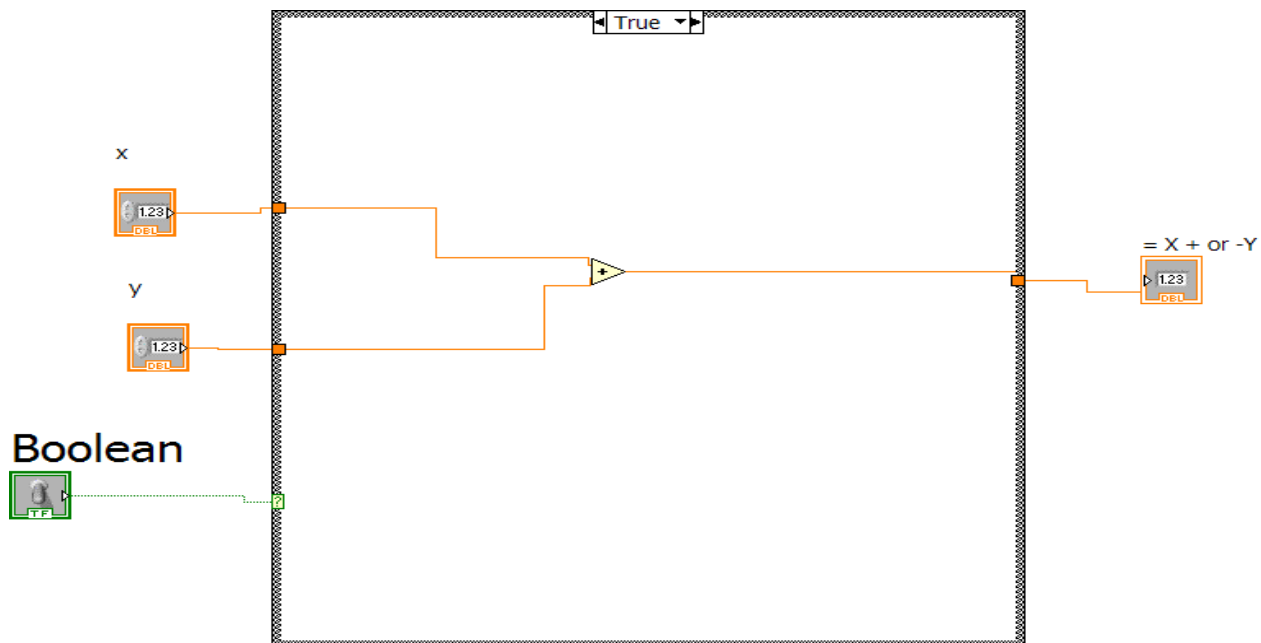

Figure 2
11. Go back to the block diagram and place the two Controls and the Indicator in the indicated location as shown in Figure 2 and 3.